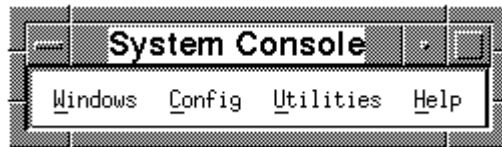

FIGURE 6-11 System Console Application Menu Bar
1. Move the mouse pointer to Windows at the System Console Application Menu Bar (shown in FIGURE 6-11).